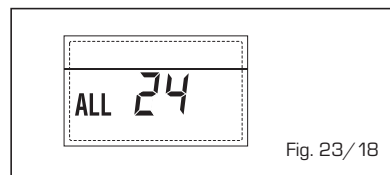

Fig. 23/18
**- ANOMALIA SONDA FERVIDOR SOLAR (S2) “ALL 25” (fig. 23/19)**